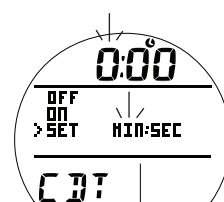

Fig. 98 - SET CDT
- >> if SET, the graphic MIN and left (minute) digits of the Time will flash (Fig. 98).